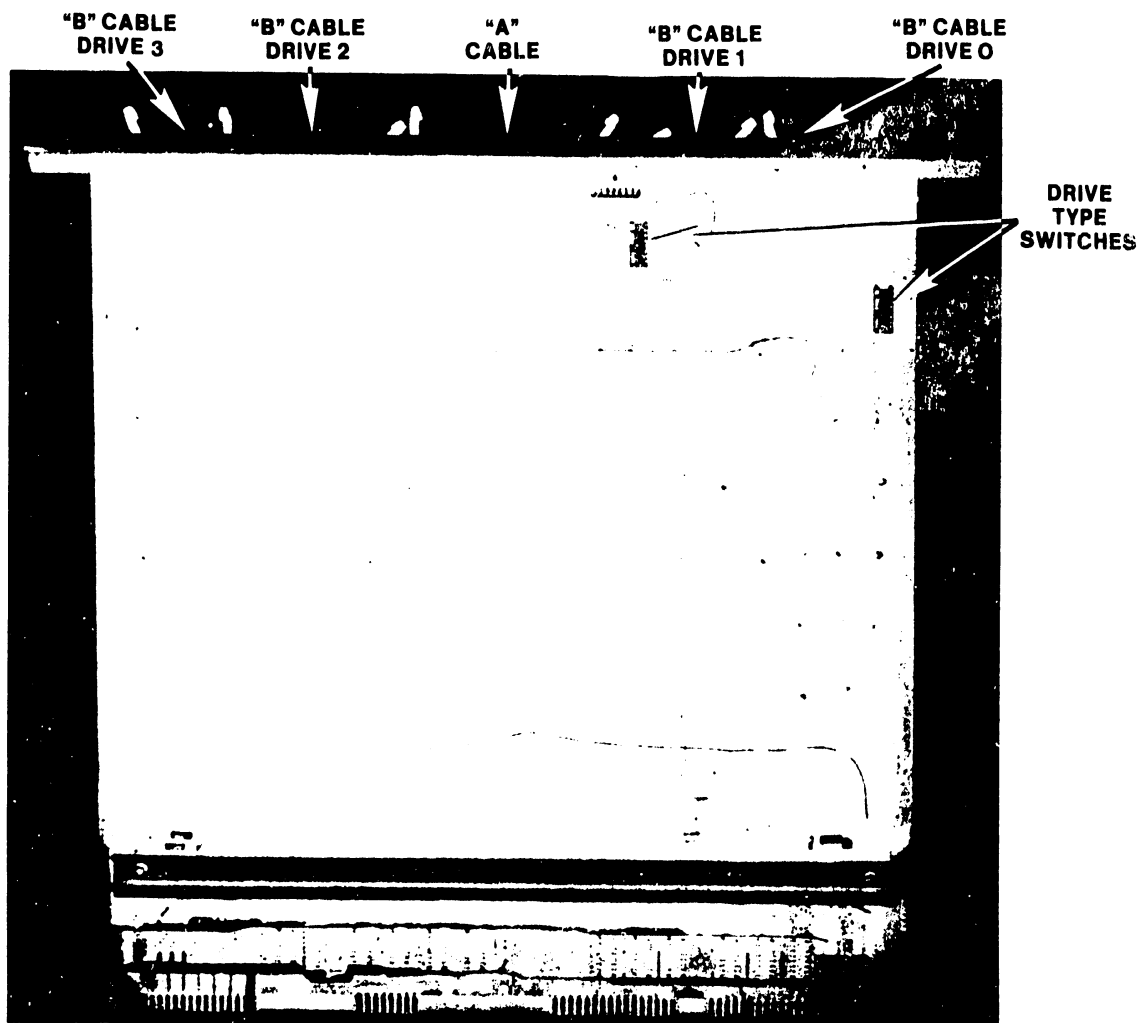

Figure 5-22. 22V28 Large Disk Drive IOP
2. Remove all connectors from the top of the 22V28 Large or 22V88 Very Large Disk IOP assembly (figures 5-22 or 5-23) in IOP slot #0 of the Motherboard. Note all the connector positions for later reassembly. (Also note that there are four versions of the 22V88 Very Large Disk IOP; 1-port, 2-port, 3-port, and 4-port. Refer to table 5-3.)
4. Check the device type switches (figure 5-22 and 5-24, and table 5-4) for the type of drives connected to a 22V28 IOP. (Refer to step 9 for the 22V88 IOP device type switches.)